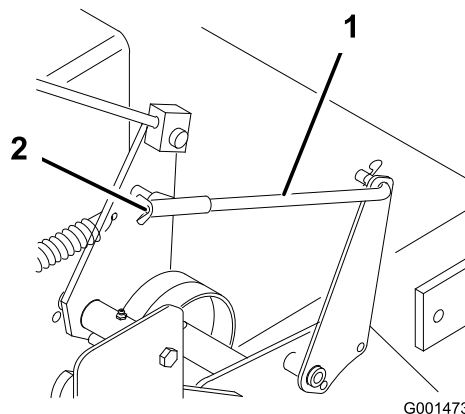

Figure 35
5. To adjust the brake, rotate the wing nuts on the brake rods (Figure 35). Turn the wing nuts clockwise to tighten the brake and counterclockwise to loosen the brake.